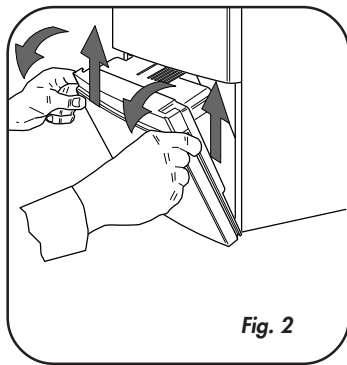

Fig. 2
- Rotate the control panel until it comes up against the first safety stop. Lift to release and rotate until it opens completely (fig. 2).